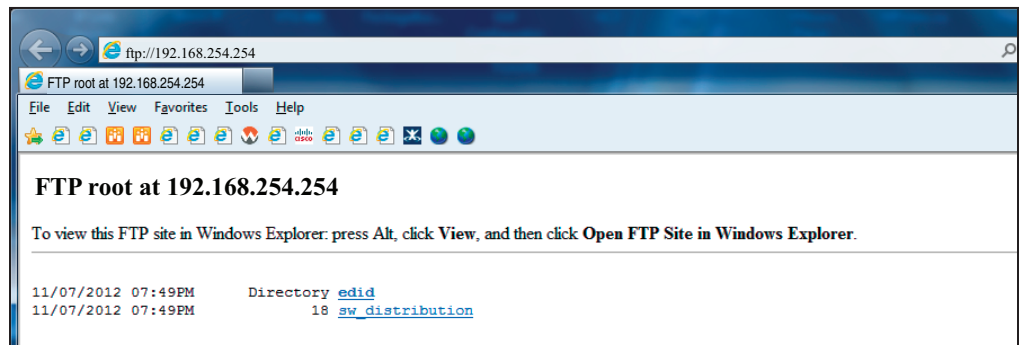

Figure 67. FTP Window
4. The computer is now connected to the SME 100 (see figure 67). Files can be viewed, copied, uploaded, and removed using this FTP window.